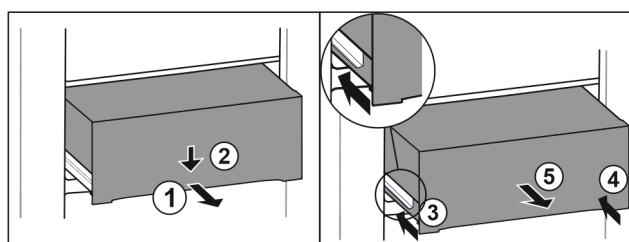

Fig. 113
- Pull out drawer half-way. Fig. 113 (1)
- Push the drawer down at the front. Fig. 113 (2)
- Push the left rail in by about 2 cm. Fig. 113 (3)
- Push the right rail in by about 2 cm. Fig. 113 (4)
- Remove drawer to the front. Fig. 113 (5)